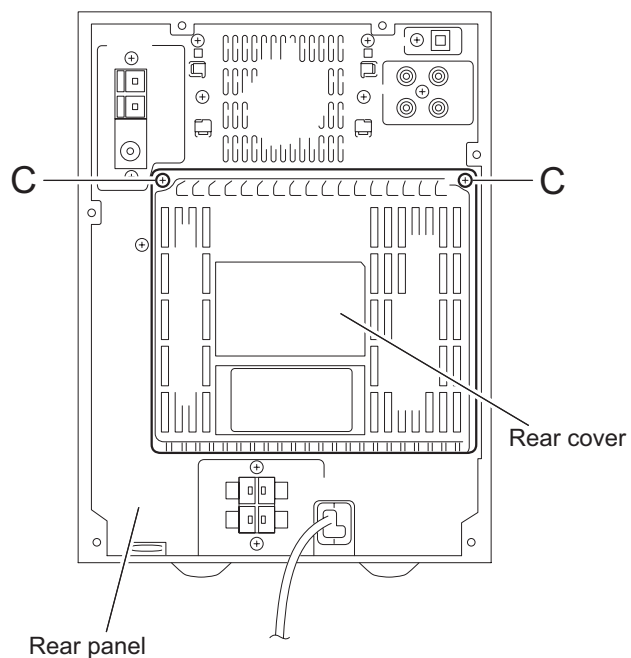

Fig.3
2.1.2 Removing the rear cover (See Fig.3)